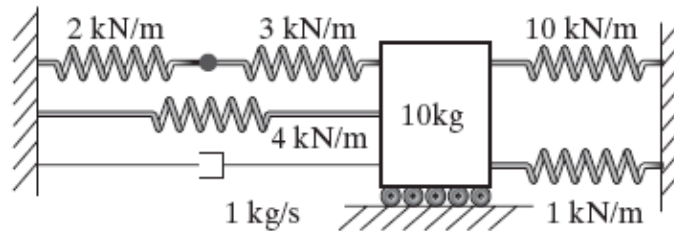

Figure P1.92
- 1.92** Calculate the natural frequency and damping ratio for the system in Figure P1.92. Assume that no friction acts on the rollers. Is the system overdamped, critically damped or underdamped?.